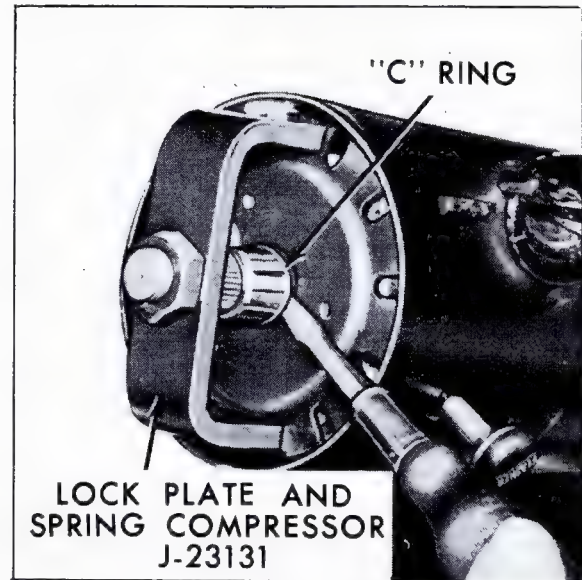

Fig. 9-44 Removing and Installing C-Ring
3. Install Spring Compressor, J-23131, on steering shaft, Fig. 9-44.
4. Compress lock plate and spring and remove snap ring from groove in shaft, Fig. 9-44. Discard snap ring.
23. Install Spring Compressor, J-23131, on steering shaft, Fig. 9-44.